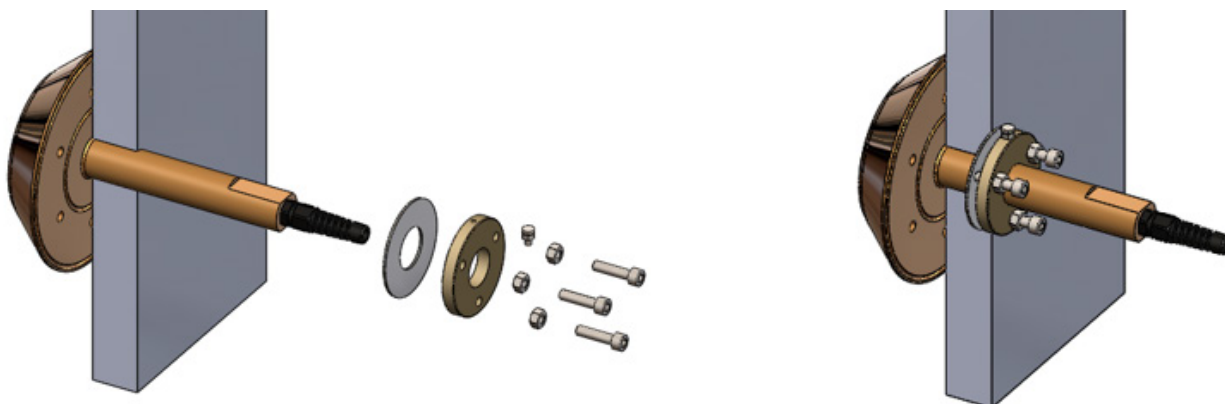

Fig.6.2
2. Insert the light body into the hull, feeding the stem through first and seat into place. Press the light hard into the hull and twist slightly to spread the sealant around behind the light to ensure good adhesion. (See Fig.6.2).
TIP: DO NOT over-tighten locking bolts, you will fracture the light body and this will not be covered under warranty. (See Fig.6.2).